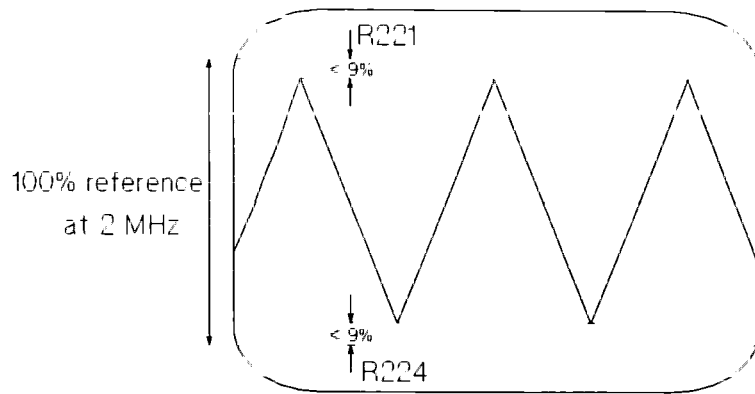

Figure 9-1. HF symmetry adjustment
38. Adjust A1R221 and A1R224 to achieve a symmetrical output signal, as shown in Figure 9-1, and a measured frequency of 50.0 MHz \pm 1.0 MHz. (You will have to connect the HP 8116A's trigger output to the counter to measure the frequency).